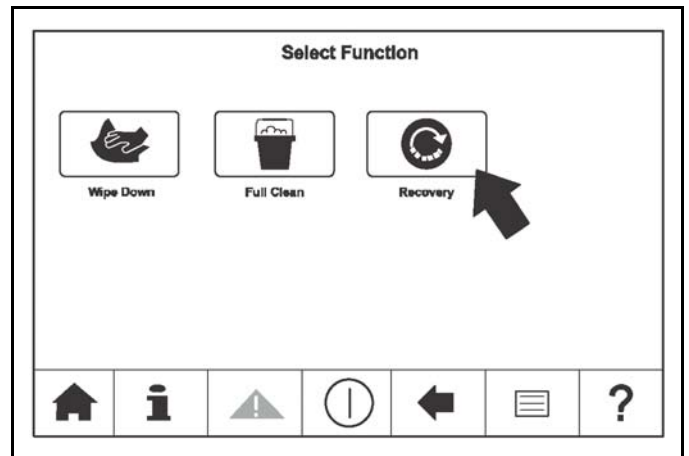

Figure-172
2. Press the Recovery key  to enter the Recovery mode. See Figure-172.